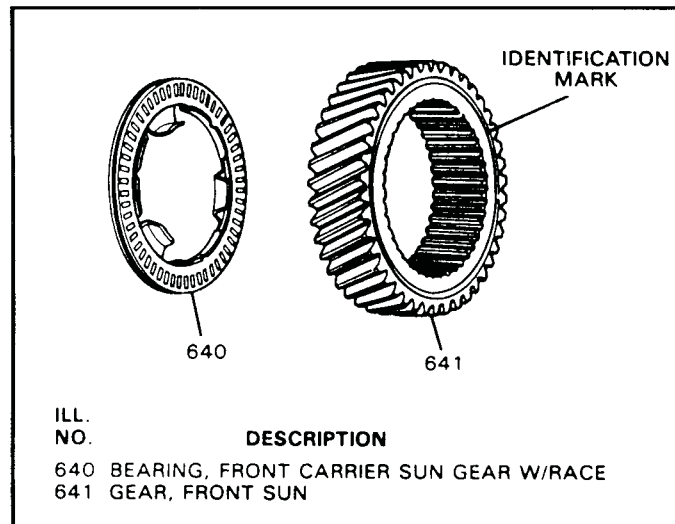

Figure 78
54. Make certain that the identification groove, that is shown in Figure 78, is facing the sun gear shell and snap ring.
55. Install the front carrier sun gear thrust bearing with race onto front sun gear (See Figure 78).